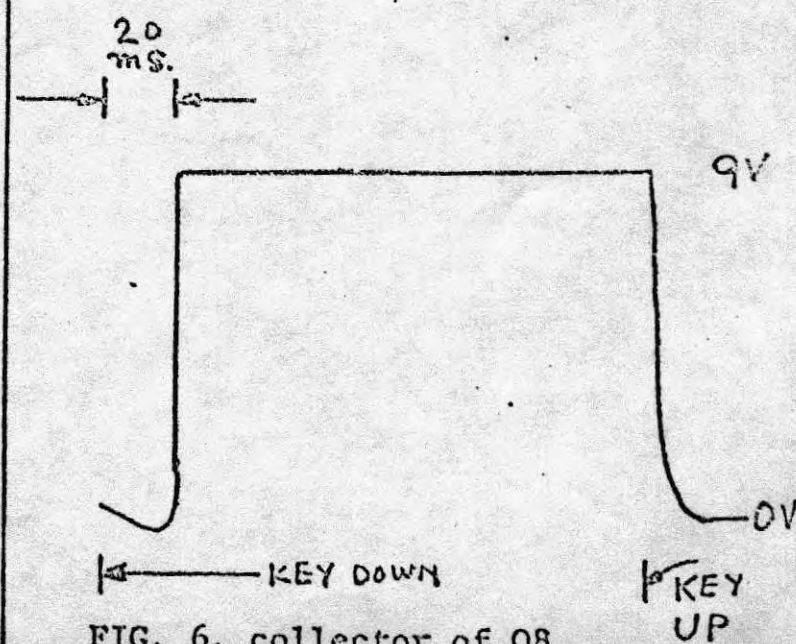

FIG. 6. collector of Q8
3. Verify that the trigger voltage at the collector of Q8 is as shown in Fig. 6 when a single key is depressed. Hold that key "down" and depress the next highest key and verify that a trigger occurs. ✓